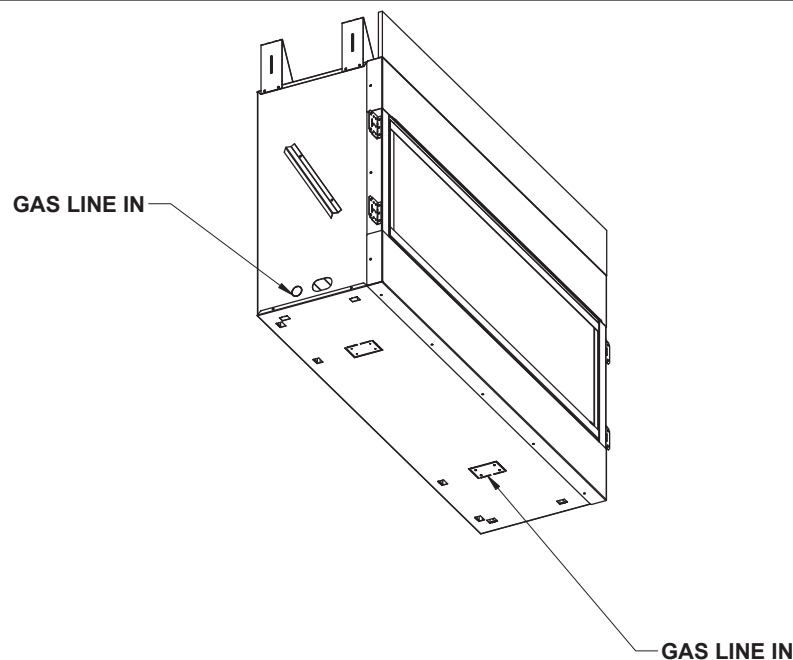

Figure 5.3 Gas Line In
A manual shutoff valve must be installed upstream of the appliance. Union tee and plugged 1/8" NPT pressure tapping point should be installed upstream of the appliance. Figure 5.3
A sediment trap should be installed upstream to prevent moisture and contaminants from passing through the pipe to appliance controls and burners. Failure to do so could prevent the appliance from operating reliable. Figure 5.3
- Gas line may be run through the left side or right bottom of the appliance. See Figure 5.3.